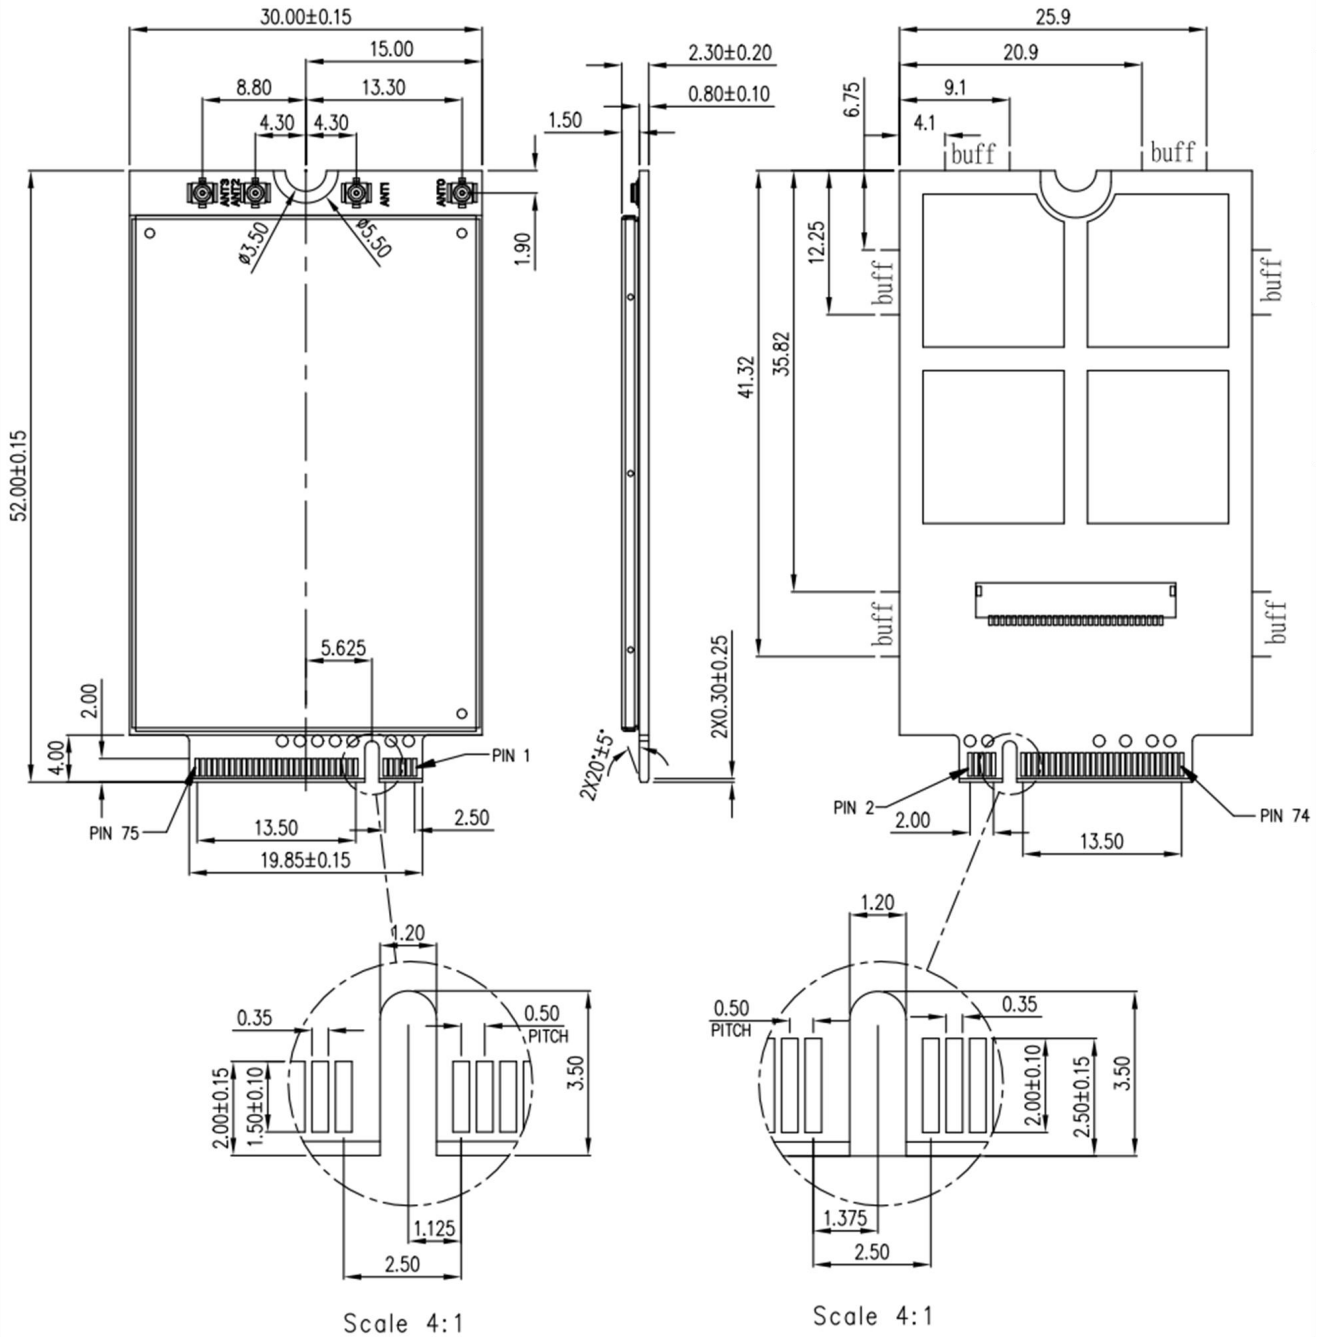

Figure 4: Dimensions of the module (unit: mm)
2. The I_{peak} and voltage drop data in Table 6 and Figure 4 were tested use SIMCom EVB and connect instrument, module power supply voltage is 3.8V, ENDC combination is B3 (20MHz) and N78 (100MHz), subcarrier spacing is 30KHz.